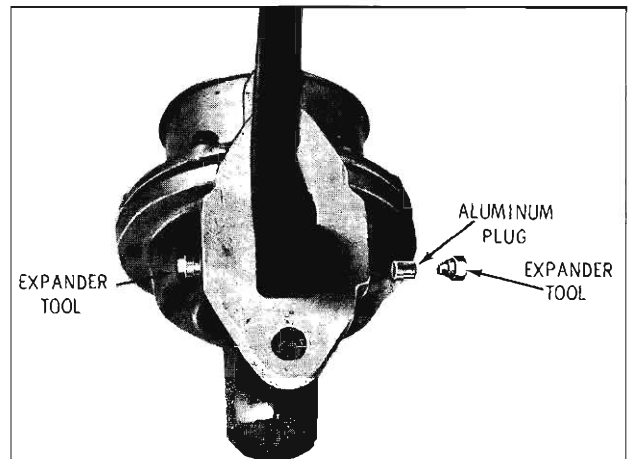

Fig. 3-485 Installing Rocker Arm Pin
8. Position an expander tool, furnished in the kit, against each aluminum plug. (Fig. 3-485)